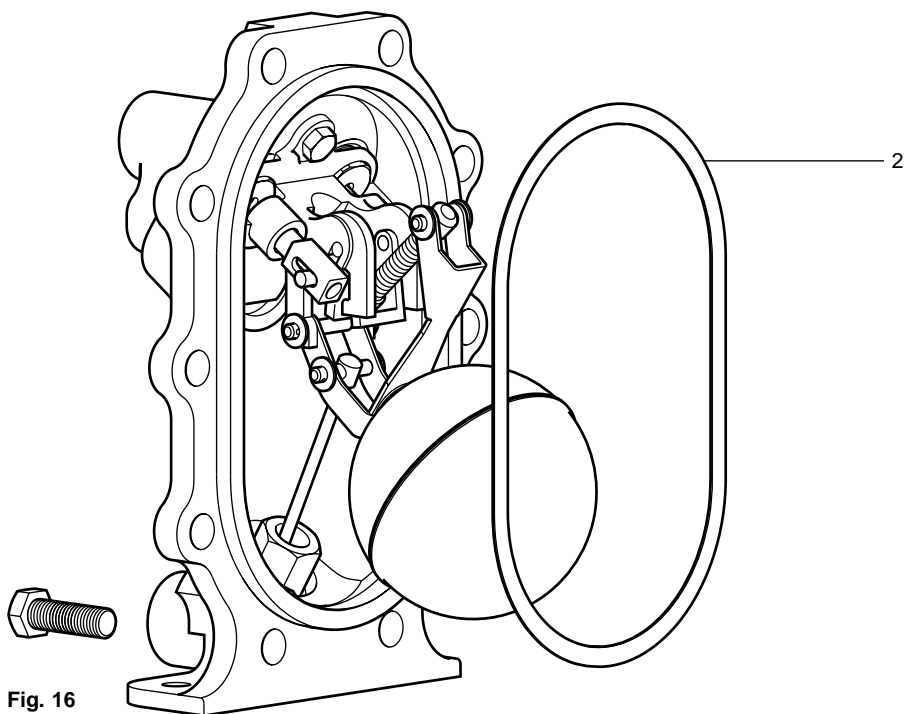

Fig. 16
3. Carefully fit a new gasket (item 2) into the existing body (See Fig. 16).